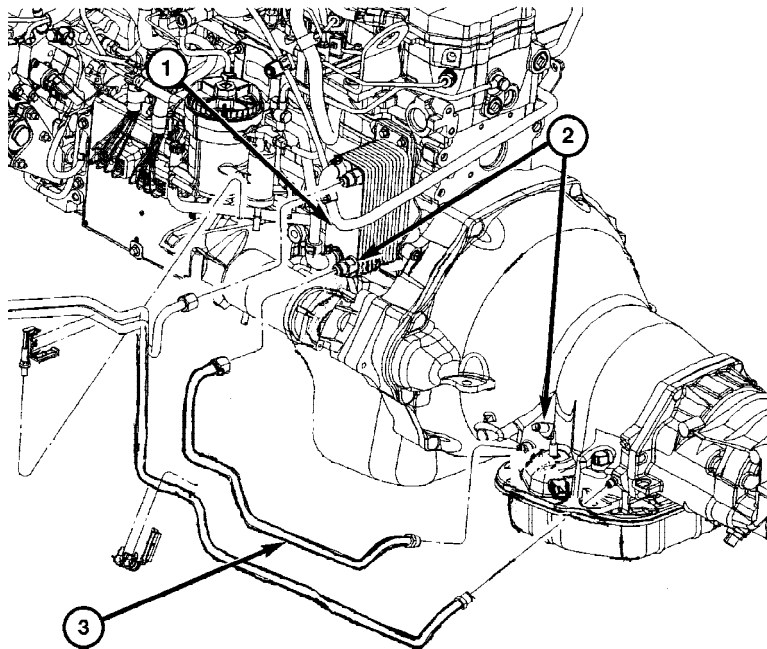

FIGURE 1
2. Disconnect the transmission cooler line from the transmission (Figure 1).
3. Disconnect the transmission cooler line from the engine-mounted transmission cooler (Figure 1).
4. Connect the new transmission cooler line to the engine-mounted transmission cooler (Figure 1). Hand-start the fitting but do not tighten.
5. Connect the transmission line to the transmission (Figure 1). Hand-start the fitting but do not tighten.